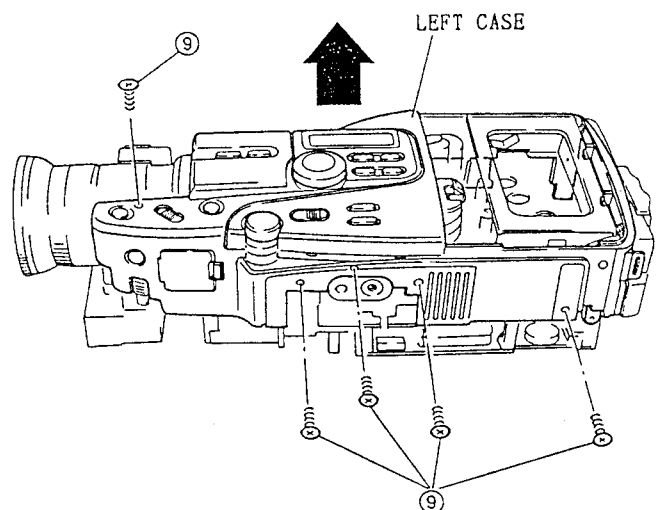

Fig. 2-12
9. Remove five (5) screws holding the left case. (See Fig. 2-12)
11. Disconnect connector CN005 on the main circuit board and remove the left case in the direction of the arrow. (See Figs. 2-12, 2-13)